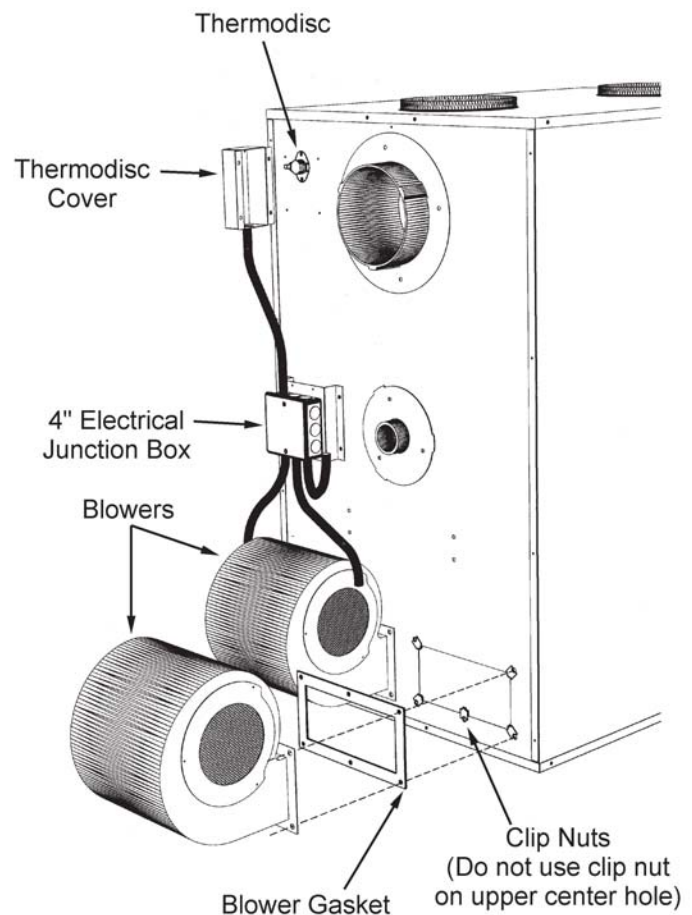

Fig. 10
6. Remove blowers from cartons. Remove junction box cover. Attach clip nuts as in Figure 10. Install blower(s) and gasket(s) with 1/4"-20x3/4" bolts as shown.